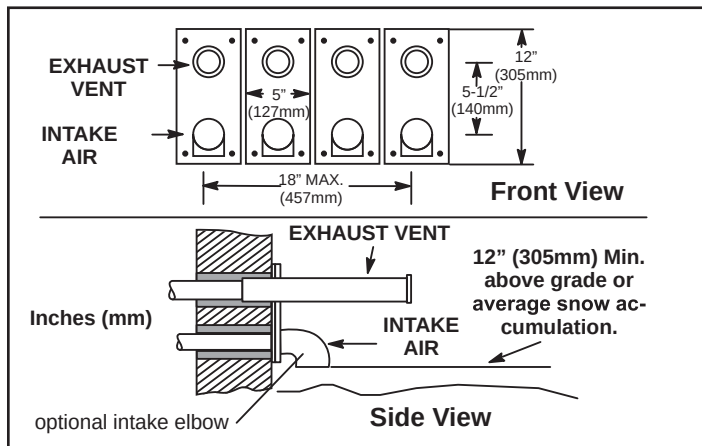

Figure 29. Optional Vent Termination for Multiple Unit Installation of Direct Vent Wall Termination
8. A multiple furnace installation may use a group of up to four terminations assembled together horizontally, as shown in **Figure 29**.